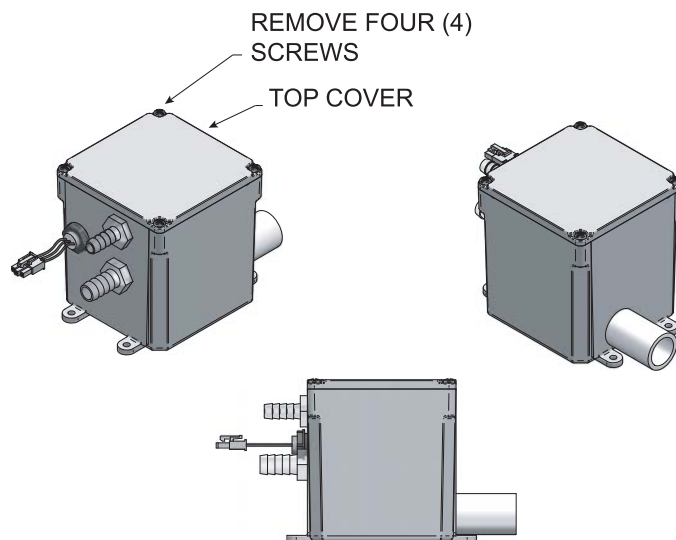

Figure 7-1_Condensate Trap
1. Remove the four (4) screws securing the top cover to the condensate trap and remove the cover (FIG. 7-1).
5. Replace the four (4) screws removed in Step 1.
⚠ WARNING The condensate trap (FIG. 7-1) must be filled with water during all times of boiler operation to avoid flue gas emission from the condensate drain line. Failure to fill the trap could result in severe personal injury or death.